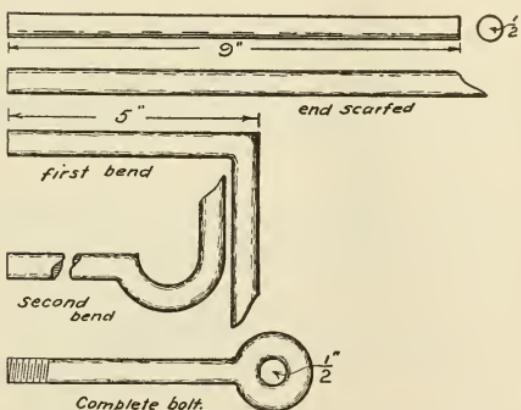

FIG. 211.—BOLT FOR PLANK DRAG.
1. For the eye bolt in the plank drag you will need 9" of $\frac{1}{2}$ " round iron. (Fig. 211.)